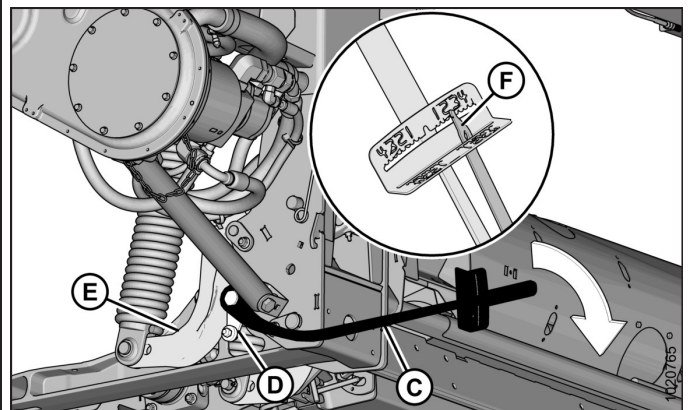
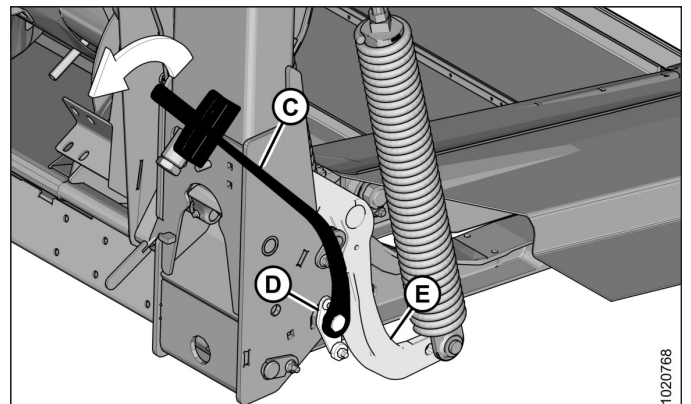

Figure 3: Checking Float – Left Side
Figure 4: Checking Float – Right Side
- Remove supplied torque wrench (C) from the storage position on the right side of the FM100 Float Module.
- Place the torque wrench onto float checking lever (D). Note the change in orientation of the wrench between the left side (Figure 3) and the right side (Figure 4).
- Push down on the torque wrench until bell crank (E) rotates forward, and continue pushing down until indicator (F) on the wrench reaches MAXIMUM reading and begins to decrease. Note the maximum reading.